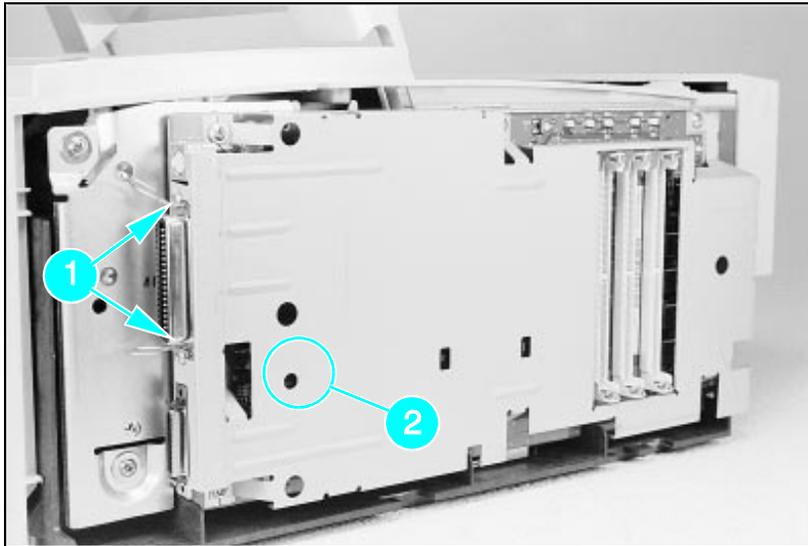

Figure 21 TORX Screw Locations.
Note There are two TORX screws holding the I/O connector in position (Callout 1 in Figure 21). These are the only two TORX screws in the HP LaserJet 5P printer. Note also the location of the test print button hole (Callout 2) on the side of the formatter board cover.
- 5.** To separate the formatter PCA from its shield, remove the two screws (refer to callout **1** in Figure 21).